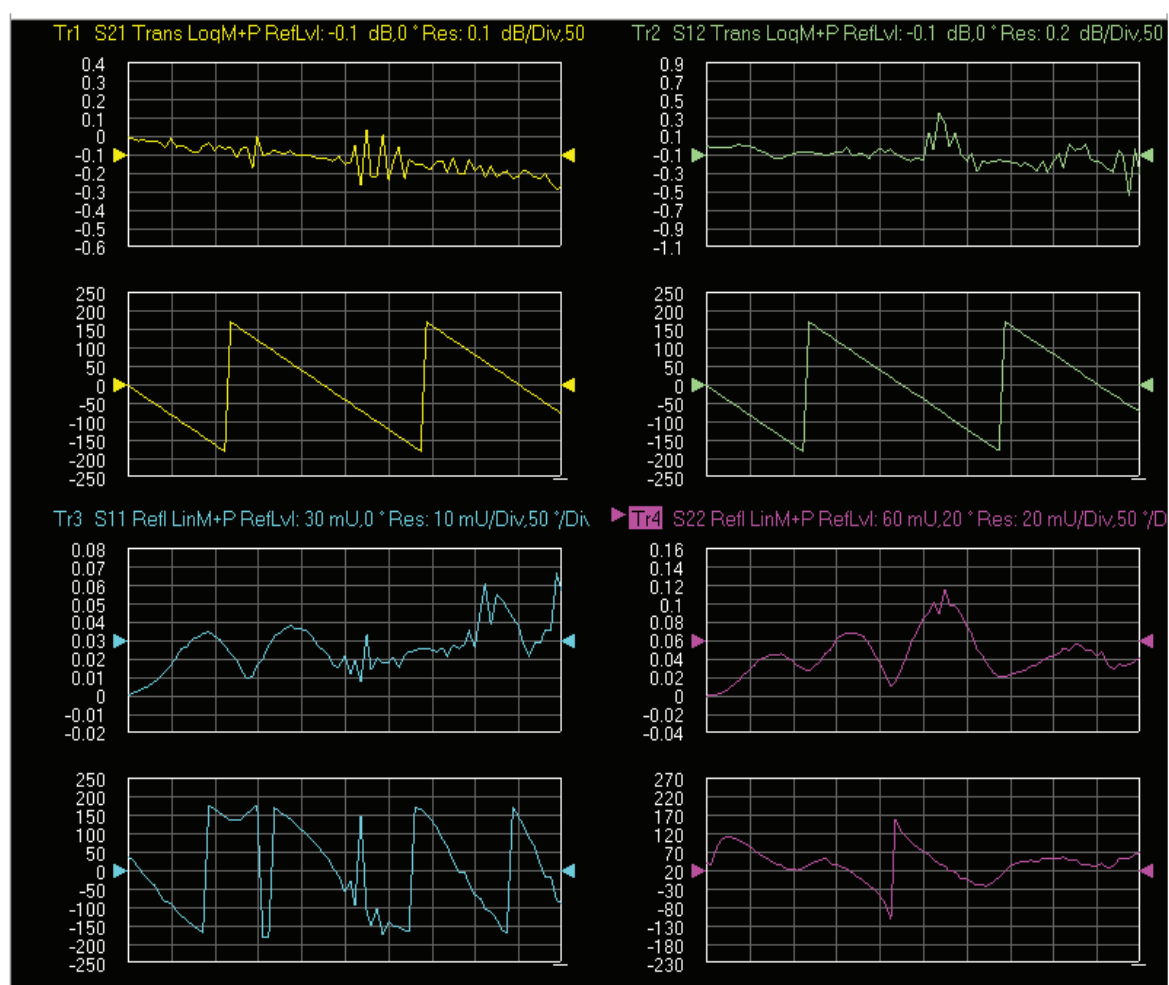

Figure 3-47. MS4640A/B Series VNA, Typical Matched Thru Data in Low Band
8. When the test completes, the next action depends on what the user selected in the Main Menu tab. The VNA main display should be similar to the one in Figure 3-47. This is a typical display immediately after measuring the Matched Thru in the Low Band. Please note this is for reference only and that the actual data on the VNA display may not be identical